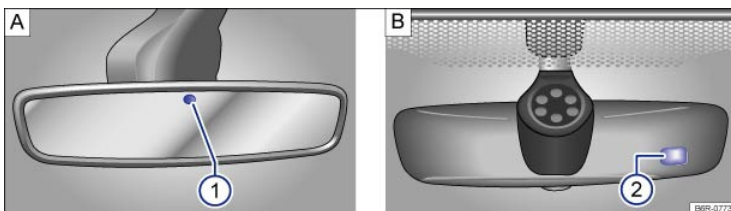

Fig. 96 Self-dimming rearview mirror (if equipped).
- One sensor on the side facing the interior to measure light from the rear of the vehicle → Fig. 96①.
- One sensor on the side facing the windshield to measure light from the front of the vehicle → Fig. 96②.